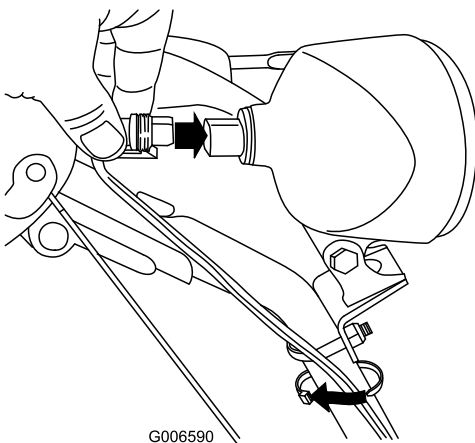

Figure 60
6. Insert the wire connector straight into the back of the headlight until it is securely in place (Figure 60).